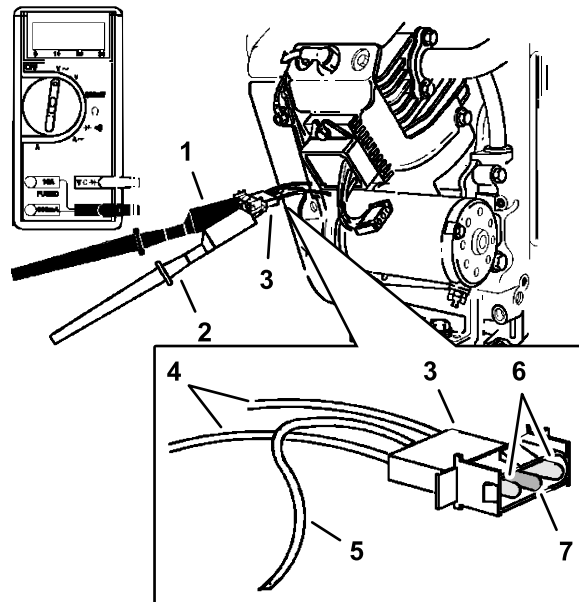

Figure 106
5. Attach red and black test lead probes to the 2 AC output terminals (yellow wires) of the connector as shown in Figure 106.
6. Attach red test lead probe to the red DC output terminal of the connector (Figure 106).